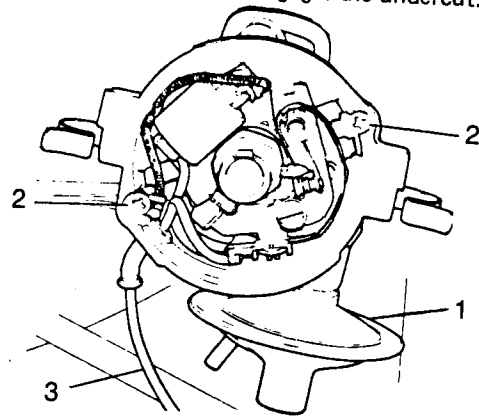
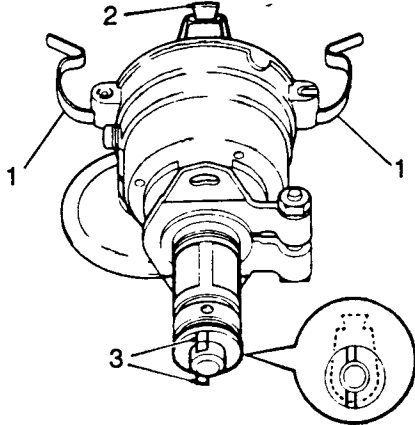

Fig D5.4
Fig D5.1
(9) Refer to Fig D5.4. Take up the slack in the low tension lead (3) by pulling it and the grommet through the body.
(10) Replace the vacuum unit (1), re-engaging the operating arm to the movable plate. Secure with the two retaining screws (2).
(11) Grease the outside of the contact breaker hollow pivot post and lightly smear the spindle cam, using Retinax 'A' grease.
(12) Replace the cam oiling pad and apply one or two drops of clean engine oil to it.
(13) Replace the rotor arm.
(14) Replace the moulded cover and secure with the clips (Fig D5.1,(1)).
(15) Replace the distributor (see Sub-section D4, Chapter 2).
- (2) Refer to Fig D5.1. Spring back the clips (1) and remove the moulded cover (the dust cap).
- (3) Note the relative position of the offset drive dog (3) to the rotor arm lobe (2). The centre line of the drive dog is parallel with and offset to the centre line of the rotor arm.